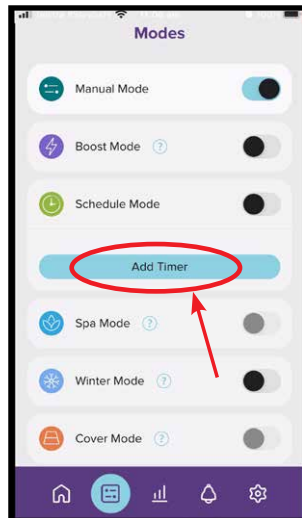

Figure 9.27
- In the “modes” menu, click the “Add Timer” button (refer Figure 9.27).